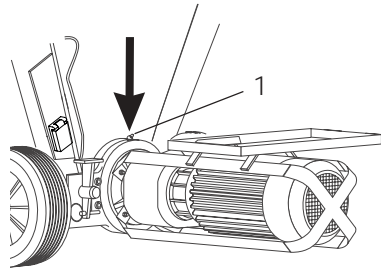

Fig. 11: Lubrication of rubber collar
- Fill the rubber collar over the grease nipple (see fig. 11) regularly with a grease gun